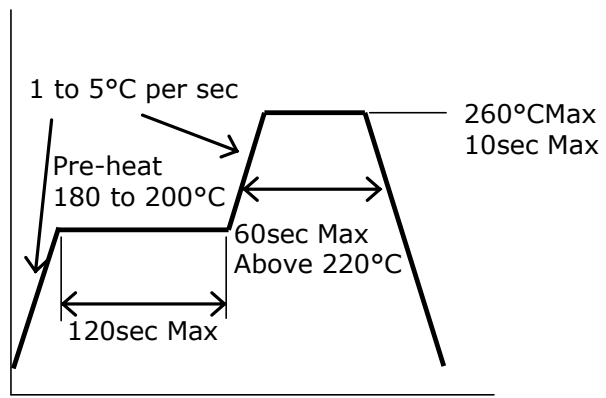

Figure 19. Recommended Reflow Soldering Condition (Lead-free Solder)
2. Using the recommended reflow soldering conditions (See Figure 19 to the left) as a reference, modify if necessary, the recommended reflow conditions specified by the manufacturer of the solder paste being used.